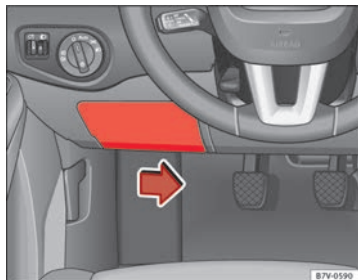

Fig. 202 On the driver-side dash panel: fuse box cover
- To remove the cover, move the activation lever in the lower part to the right ⇒ Fig. 202.